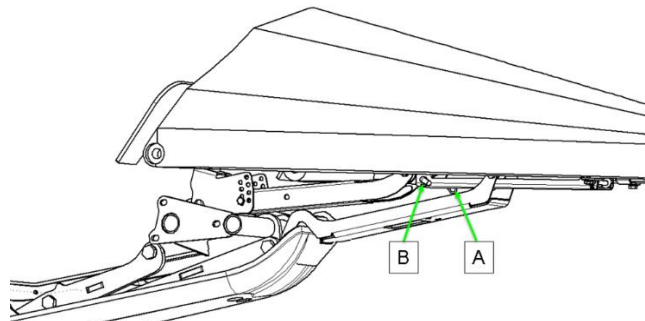

Figure 4.52: Adjustable Skid Shoe Stalk Deflector
2. Rotate slide channel to line up lower roller and slide channel under stalk deflector roller (C) shown in Figure 4.52.
4. Rotate slide channel back up to the original position and reinstall pin (B) and securement pin (A) shown in Figure 4.52.